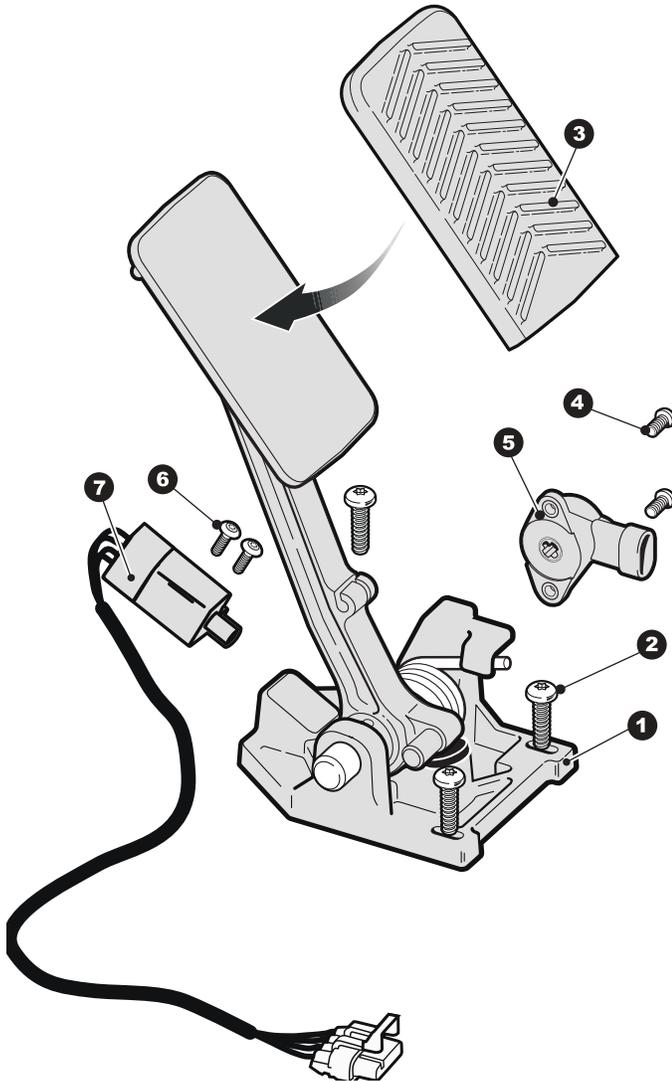

Fig. 4 Accelerator Pedal
| Fig. 4 Accelerator Pedal | E - 3 |
3. Remove three torx screws (2) securing accelerator pedal assembly (1) to the floorboard. (Ref Fig. 4)
4. Disconnect the wires from the rotary position sensor (5) and the throttle enable switch (12).
5. Remove the two Torx screws (4) from the rotary position sensor (5) and remove sensor.
6. Remove the two Torx screws (8) from the throttle enable switch (7) and remove the switch.